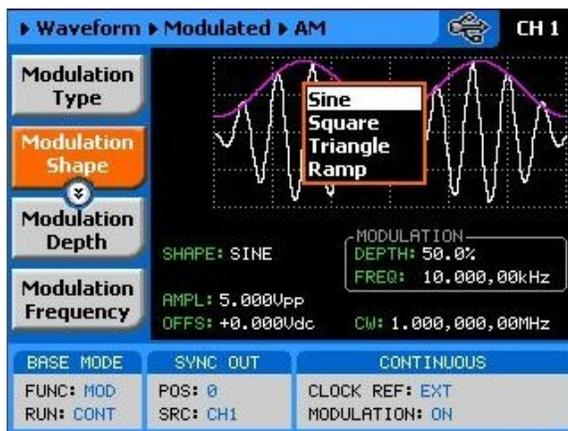

Figure 3-56, Modulating Waveform Shapes
**Modulation Shape** – defines the envelop function. There are four shapes that can be used: Sine, Triangle, Square and Ramp. The Modulation Shape menu that provides access to the selection of the envelop waveform is shown in Figure 3-56.
There are two separate FM functions within the PM8572A of which differ in the way that the carrier is being modulated. Looking at Figure 3-56, the first four modulating waveforms are created internally by the instrument and their parameters can be characterized by the user from the front panel or from a remote interface.